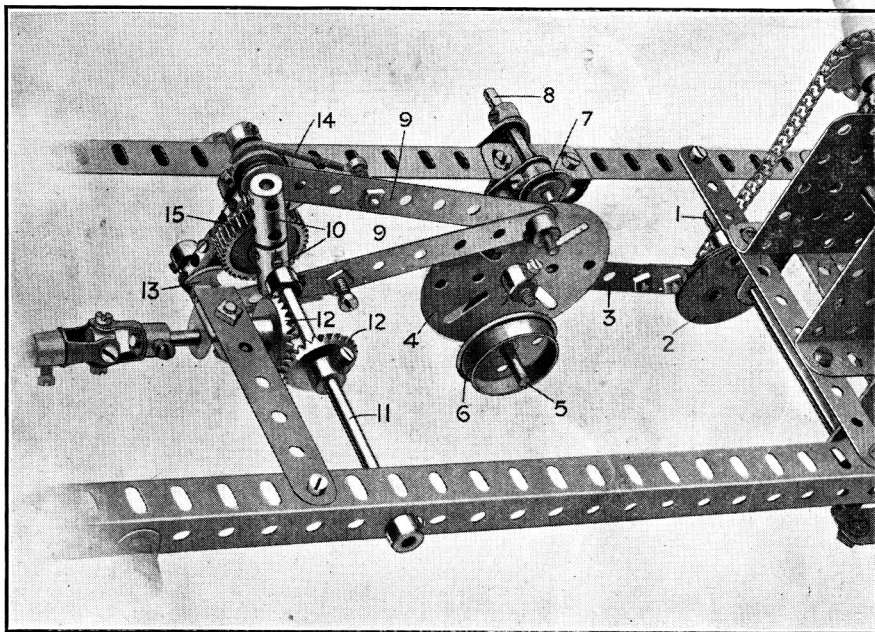

Fig. 4 The Converter in Meccano
The Meccano model of the Torque Converter may be constructed as follows: The rod 1 (Fig. 4) is rotated by a sprocket chain from the electric motor fitted to the chassis. This rod carries a triple throw eccentric (2) which is connected by a 3" strip (3) to the centre of a face plate (4). A short rod (5) passes through the lower hole of the face plate and carries two flanged wheels (6) which act as the pendulum weight. The rod (5) and the weights (6) are suspended by two cranks (7) from the short pivotal rod (8) mounted on the main member of the frame as shown. Two 4½" strips (9) are connected to the top hole of the face plate (4) and their other ends are connected to elements each formed by two couplings (10) secured on short rods, the couplings rocking loosely on the driven rod (11)